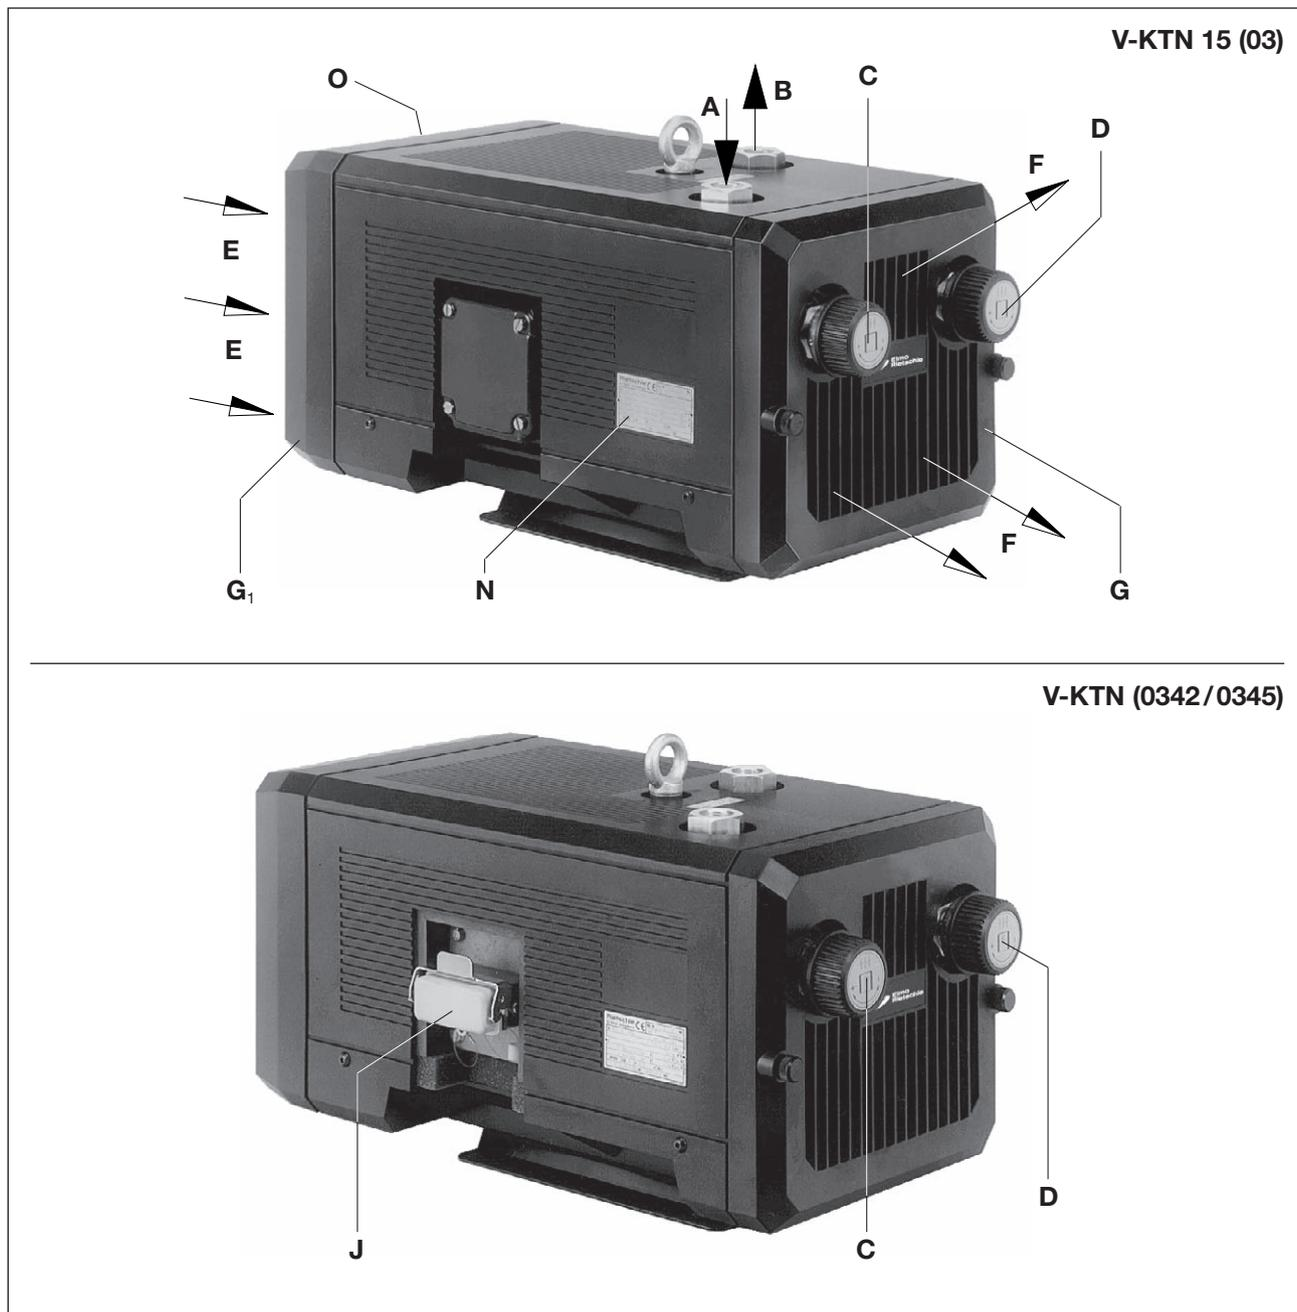

Fig. 2 V-KTN Pressure vacuum pump (03)
The V-KTN (01 → 06) and (08 → 10) are in a plastic sound cover. Inside the sound cover is also a fan that provides cooling. The vacuum regulating valve (Fig. 2/C) and the pressure regulating valve (Fig. 2/D) enable the vacuum and pressure to be set to the required values which have an upper limit.
The nominal flow rate is 15, 25 and 40 m³/h at 50 Hz. The load limits (bars) on the intake and pressure sides are specified on the data plate (Fig. 2/N). Data sheet D 480 shows the dependency of the flow rate on the excess pressures.
To remove the outlet grid (Fig. 2/G), the inlet grating (Fig. 2/G₁) and the housing lid (b) at least 30 cm of space must be available for maintenance work. You must also ensure that the cooling air inlets (Fig. 2/E) and cooling air outlets (Fig. 2/F) must be at least 10 cm away from the nearest wall (outgoing cooling air must not be sucked in again).
- a) Vacuum connection at (Fig. 2/A) and pressure connection at (Fig. 2/B).
The required pressure and vacuum ranges can be set with the pressure regulating valve (Fig. 2/D) and the vacuum regulating valve (Fig. 2/C) as shown on the symbol plate attached to the rotary knob.
- a) The electrical motor data can be found on the data plate (Fig. 2/N) or the motor data plate. The motors comply with DIN EN 60034 and are in protection class IP 55 and insulation class F. The appropriate connection diagram is located in the motor's terminal box (not for the plug connection version). The motor data must be compared with the data of the existing mains network (current type, voltage, network frequency, permitted current value).
- b) Connect the motor via plug-connector (Fig. 2/J) if fitted or via the motor protection switch (for safety reasons, a motor protection switch is required and the connecting cable must be installed via a cable fitting to provide strain relief). We recommend using motor protection switches with delayed switch off, depending on possible excess current. Temporary excess current can occur when the machine is started cold.
When the machine is at operating temperature the surface temperatures on the components (Fig. 2/ Q) may go above 70°C. You must avoid touching the hot surfaces (marked with warning plates).